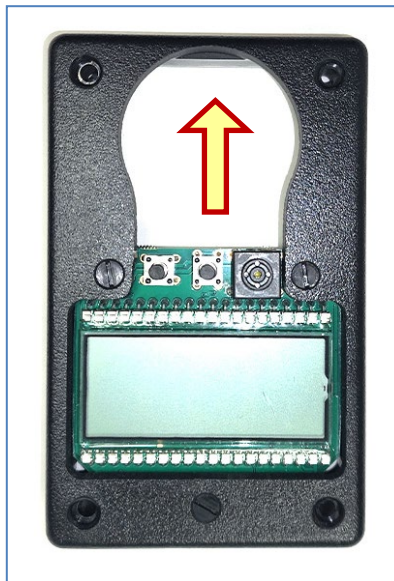

Figure 3. Faceplate face up (left) and face down (right). Note: Arrows denote assembly orientation.
3. Place faceplate face-up (with display screen facing you) on a flat, clean, dry, non-metallic surface (Figure 3).
4. Remove two (2) bottom screws below display screen using a small flat blade screwdriver and a 1/4 in nut driver.